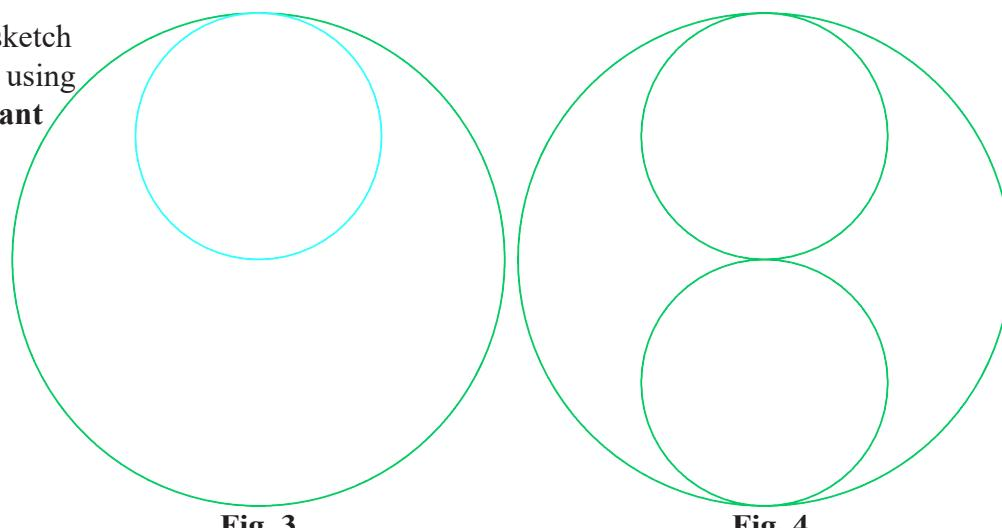

Fig. 3
Step 2. Use the **upper quadrant** and **Origin** for the two points to sketch circle, **Fig. 3**.